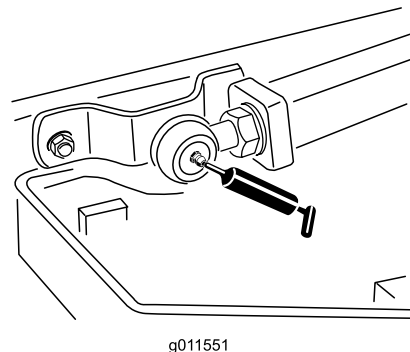

Figure 41
- 2 lift-arm-ball joints (Figure 41)